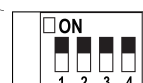

Figure 1b
3. Receiver: Slide code switches to the same positions as set on your transmitter (Figure 1b).